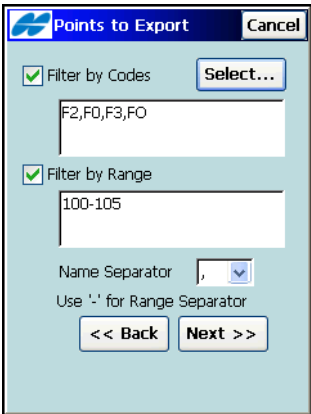

Figure 5-22. Points to Export
5. If *By Range and Code* was selected in the *Points* drop-down menu, on the ***Points to Export*** screen, select the codes and/or the range of points to be exported (Figure 5-22 on page 5-16).